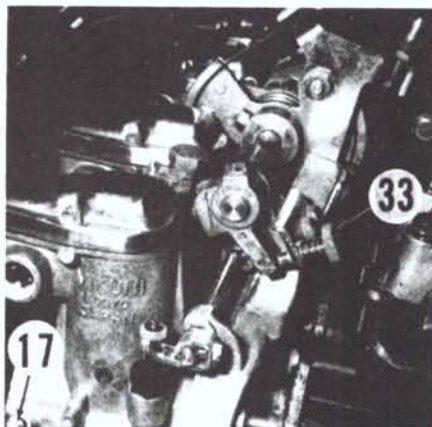

Fig. K13-1—Pilot air screws (17) should be 1½ turns out from a lightly seated position. Idle speed is adjusted by turning screw (33).
When carburetor adjustments are necessary, adjustments should be made with engine at normal operating temperature. Initial setting for pilot air screws (17—Fig. K13-1) is 1½ turns out from a lightly seated position. Idle speed should be set to approximately 1000 rpm and is adjusted by turning screw (33).